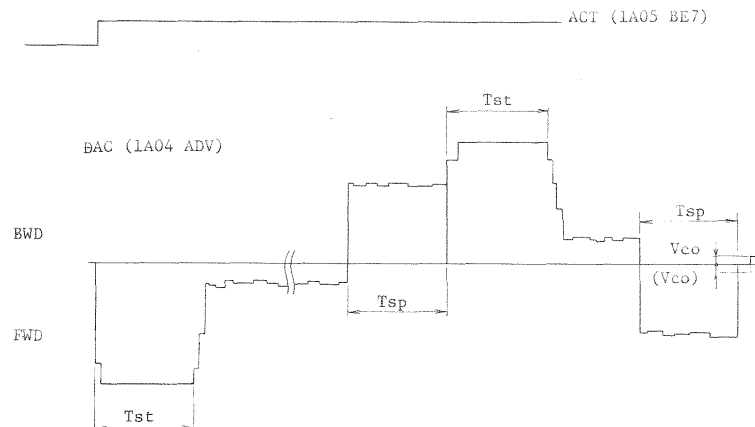

Fig. 3 DAC output (Forward Start/Stop)
2. Set command code \$25 and perform the Forward Start and Stop operation. (See Fig. 3.)
3. Trigger the leading edge of signal ACT (at 1A05 BE7), and then check that the time Tst and Tsp shown in Fig. 3 or Fig. 4 satisfies the specification in Table 3.